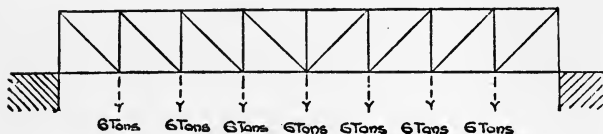

Fig. 2.
6. The truss of a railway bridge consists of 8 panels each 20 feet square. Due to the dead load each lower panel point supports a load of 6 tons as shewn in Fig. 2. If a live load of $\frac{1}{2}$ ton per foot run advances across the bridge, determine how many of the panels need counterbracing.